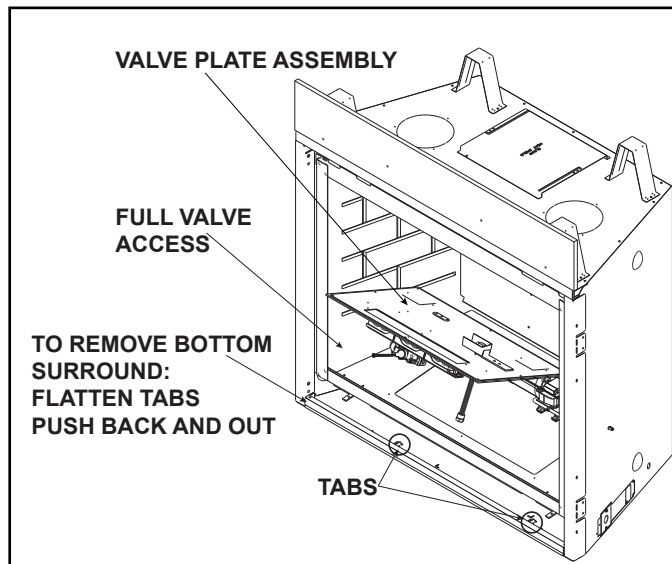

Figure 9.4 Gas Valve Access
- Remove decorative barrier front, glass, logs, base pan assembly, burner assembly and valve plate assembly. See Figure 9.4.